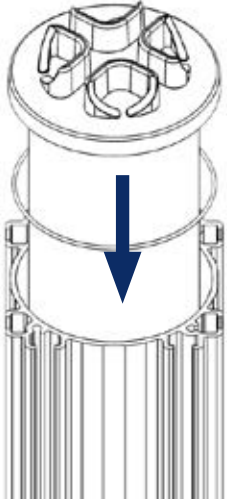

Fig. 9
- ▶ Carefully insert new filter element into filter housing. (Fig. 9)